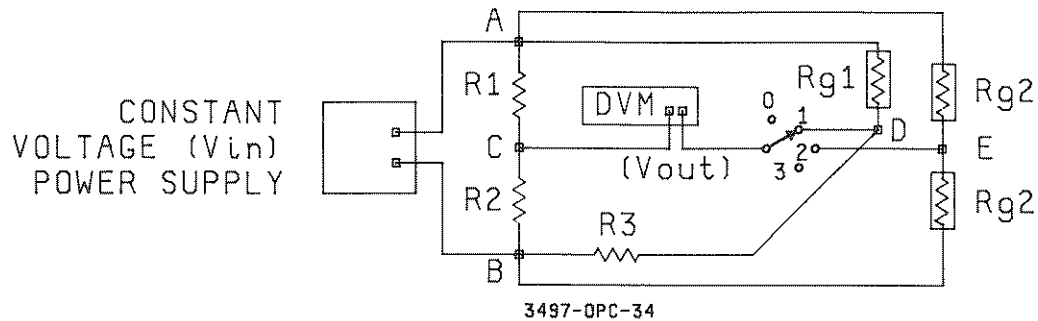

Figure 34. Options 070/071 - Bridge Circuits for Assemblies
The strain gauge assemblies use a bridge circuit called a "Chevron Bridge" for multichannel bridge measurements. Figure 34 shows a circuit setup which switches a DVM between gauges. One channel is shown as a $\frac{1}{4}$ bridge and the other as a $\frac{1}{2}$ bridge (two active gauges). Resistors R1, R2 and R3 form three sides of the bridge and the excitation voltage (V_{in}) to the gauges is continuously applied.
To make strain gauge measurements with this circuit, the DVM is switched between points C-D, D-E, etc., and measures V_{out} for each channel. Although not shown in Figure 34, the DVM can also be switched to measure V_{in} . The procedure to measure strain with this circuit is as follows (assuming that the Gauge Factor is known). For an example program, see EXAMPLE - SCANNING STRAIN GAUGES.
- (1) Measure V_{in} and store the value.
- (2) Measure V_{out} for channel #1 ($\frac{1}{4}$ bridge in Figure 34) with the gauge unstrained.
- (3) Measure V_{out} for channel #1 with the gauge strained.
- (4) Compute strain from $\epsilon = -4V_r/GF(1 + 2V_r)$. [$\frac{1}{4}$ bridge]
- (5) Switch the DVM to channel #2 (shown as a $\frac{1}{2}$ bridge in Figure 34) and repeat steps (2) through (4).